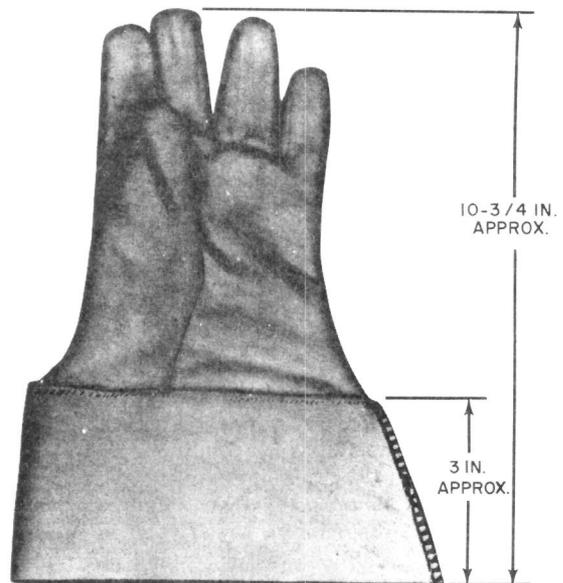

Fig. 3—Fabric Liner Glove
5.01 C fabric liner gloves (Fig. 3) are form fitting gloves made of knit cotton cloth and equipped with 3-inch wide rubberized fabric gauntlets.